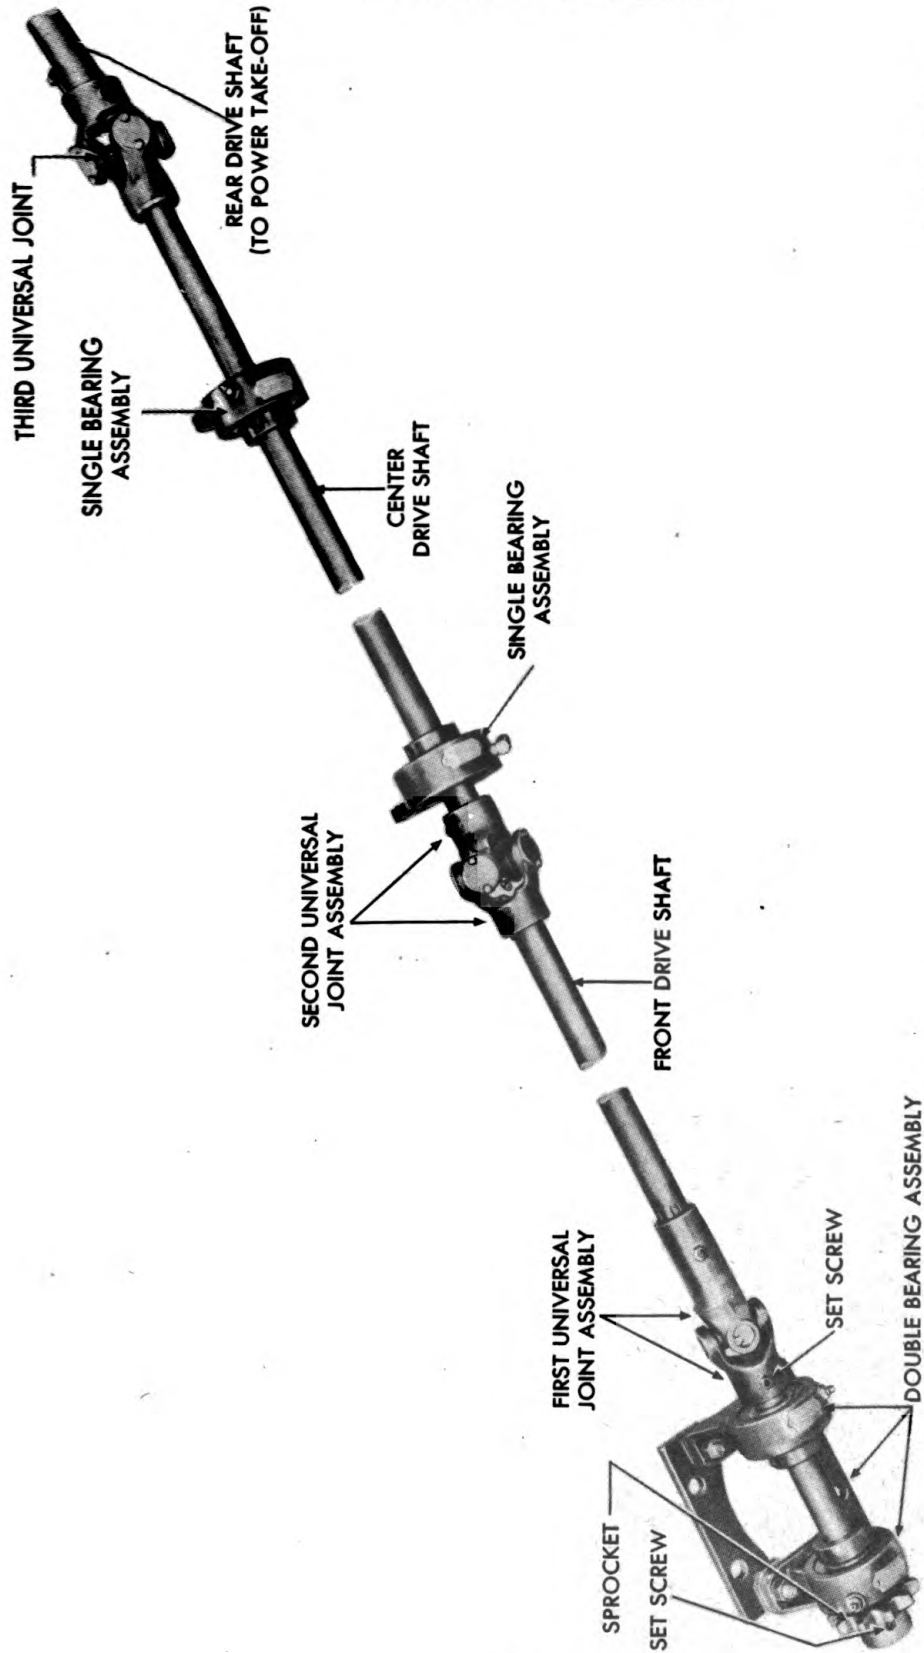

Figure 28 — Drive Shafts and Universal Joints
(1) **DISASSEMBLE DRIVE SHAFTS** (fig. 28). Remove universal joint at power take-off by loosening set screw and sliding off rear drive shaft; then remove key from shaft. Loosen set screw that holds third universal joint to rear drive shaft, and remove shaft. Remove key from shaft, loosen set screw that holds third universal joint to center drive shaft, and remove universal joint and key from shaft. Loosen two set screws that hold two single bearing collars to center drive shaft, and remove bearings and collars from center drive shaft. Loosen set screw and key that holds second universal joint to center drive shaft, and remove universal joint and key from shaft. Remove key from rear end of front drive shaft. Remove set screw that holds first universal joint to double bearing, and remove universal joint and key from shaft.
(3) **ASSEMBLE DRIVE SHAFTS** (fig. 28). Install key on rear end of front drive shaft; then install key and second universal joint on center drive shaft. Fasten joint with set screw. Install bearings and collars on center drive shaft and fasten collars with set screws. Install key and third universal joint on center drive shaft, and fasten joint with set screw. Install rear drive shaft in third universal joint, and secure with set screw. Install key and universal joint for power take-off on rear drive shaft, and secure joint with set screw.